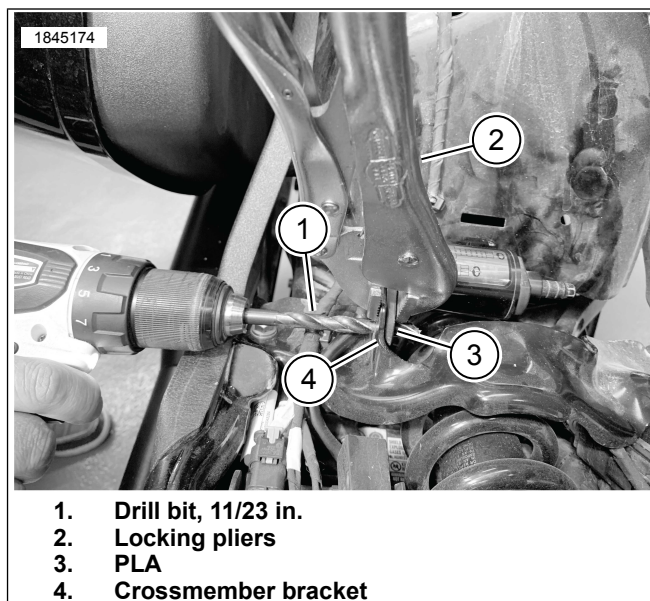

Figure 3. Rework Mounting Hole
7. Figure 3 Using 11/32 inch drill bit (1), drill through crossmember bracket (4).
- a. Using the existing hole on crossmember bracket (4) as a guide.